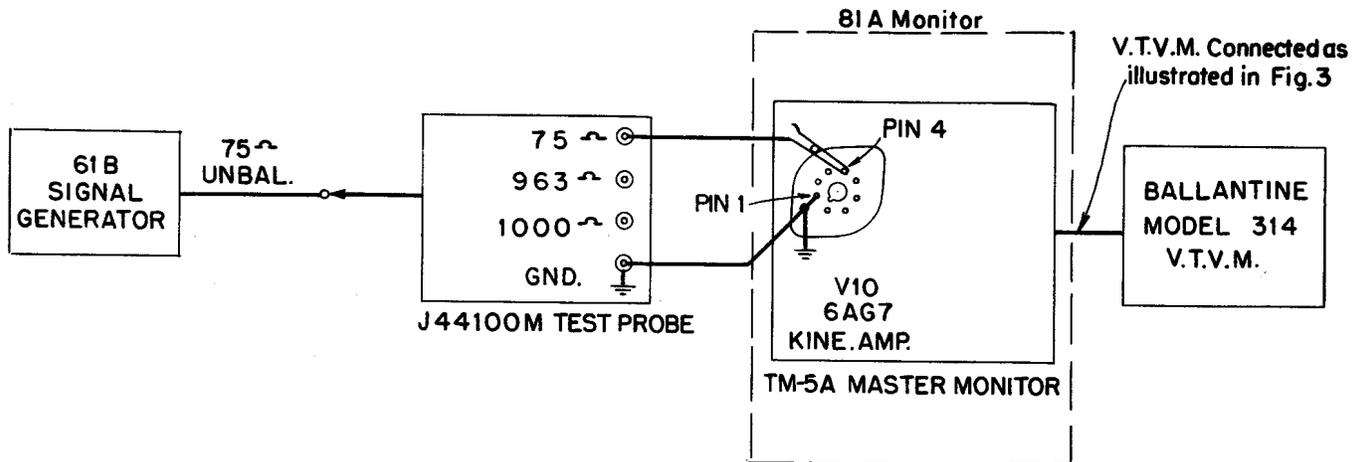

Fig. 4 - Equipment Arrangement for Stage Alignment of the Kinescope Amplifier
- (1) Turn power OFF and connect the vacuum tube voltmeter as in Paragraph 4.10(2).
- (2) Set the signal generator for 75-OHM UNBAL SINE WAVE OUTPUT, -3 db output level and 100-kilocycle frequency.
- (3) Connect the signal generator via the J44100M tube probe (75-ohm position) to socket pin No. 4 of V10 and the socket chassis ground connection, in the kinescope amplifier. See Fig. 4.
- (4) Turn the power ON and allow a warmup period of 15 minutes.
- (5) Set the top and bottom slug adjustments of T104 and T105 for minimum inductance (full CCW).